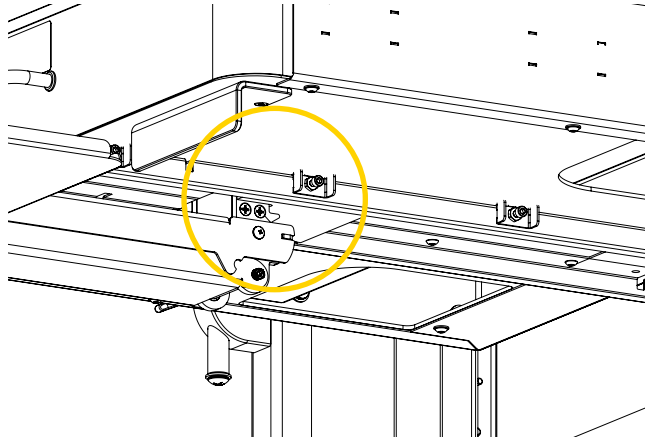

Figure 16: Tightening the adjustment screws (3 of 3)
- E. Pull the tray to retract it and align the bearing housing in front of the second adjustment screw (Figure 16), then tighten the screw until you begin to feel resistance using a $\frac{5}{32}$ in. hex key and torque the nut $\frac{1}{2}$ to 1 full turn using a $\frac{3}{8}$ in. key.